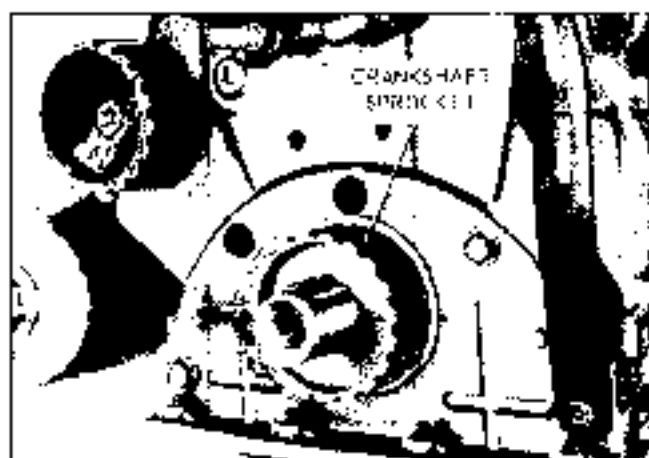

Fig. 6-32 Crankshaft Sprocket
8. Remove crankshaft timing belt flange and sprocket (Fig. 6-32).